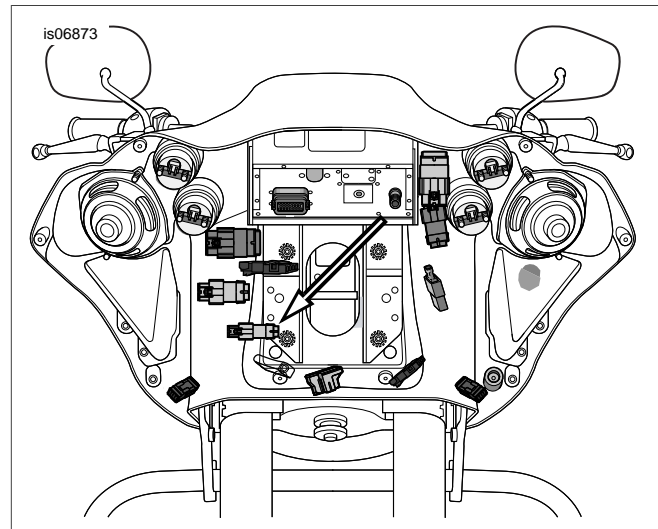

Figure 6. Twist Grip Sensor Jumper Harness Connector (FLTR models)
5. See Figure 6. Connect TGS connector half from right handgrip to harness connector half.